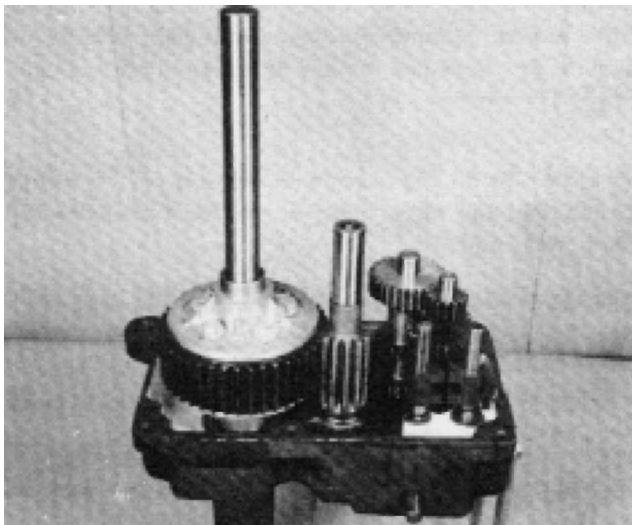

FIGURE 2
8. Remove the six (6) 3/8" x 16 bolts and nuts that retain the right hand and left hand cases.
9. Remove the left hand case leaving all gears intact, as shown in Figure 2.